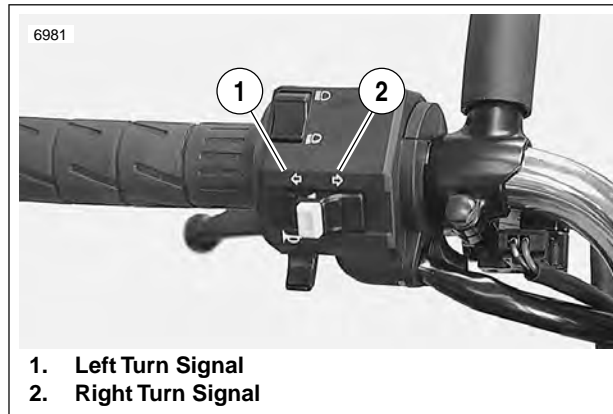

Figure 7-48. Turn Signal Controls
- b. See Figure 7-48. Activate left turn signals using switch on left handlebar. Front and rear left turn signals must flash.